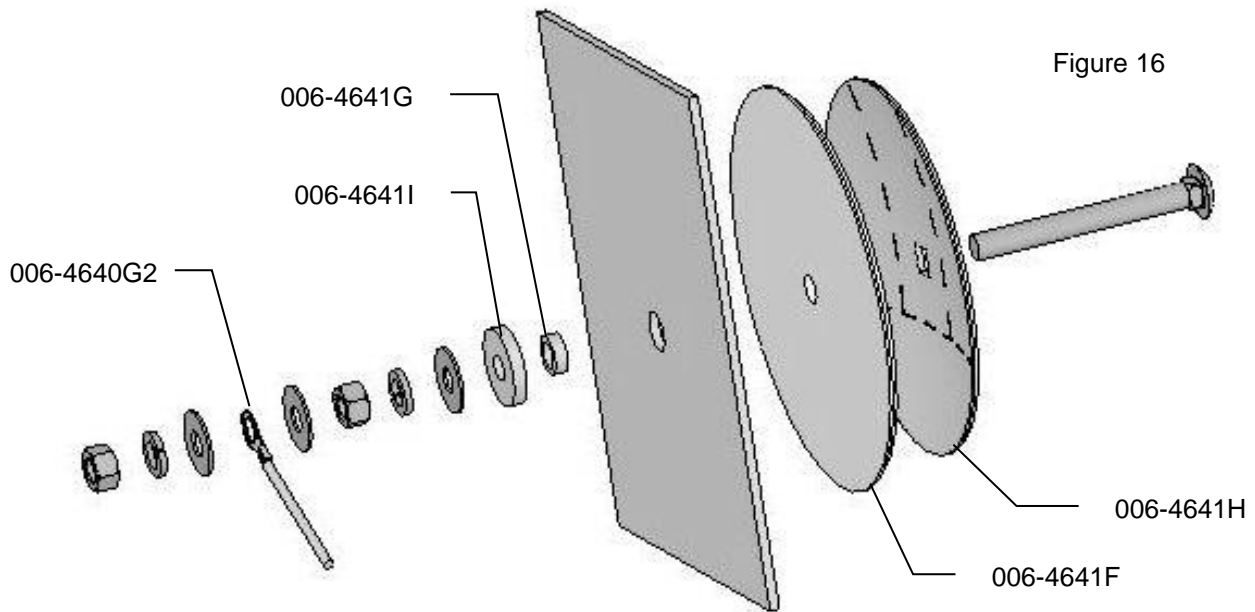

Figure 16
4. Locate the 006-4641G. The piece will need to be cut down to size. Use the already machined line in the bushing to cut off the small piece shown above. (Figure 16)